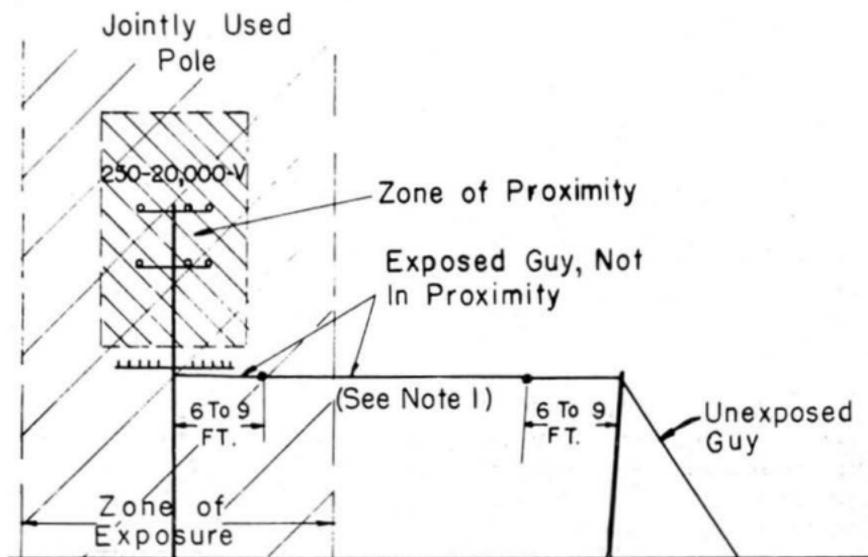

FIG. 105
- (b) Overhead Guy - Place a strain insulator in the guy not less than 6 feet and not more than 9 feet (measured along the guy) from each point of attachment to wood poles or structures. All insulators in overhead guys shall be not less than 8 feet above the ground. (See Figure 105.)